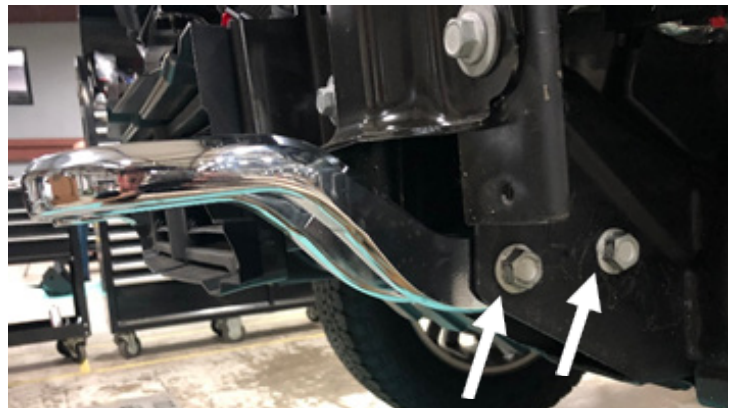

Figure 13
12. If equipped, remove the factory tow hooks by using an 18mm socket wrench to unfasten the two (2) bolts in the frame. Figure 13.